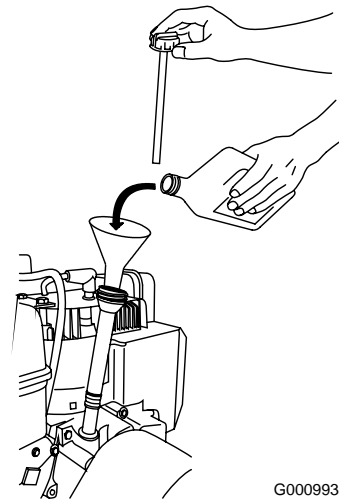

Figure 18
1. Remove the dipstick and **slowly** pour oil into the oil fill tube to raise the oil level to the Full mark on the dipstick. **Do not overfill.** (Figure 18).